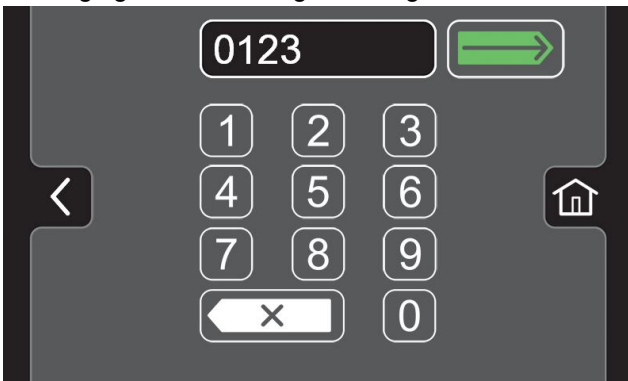

FIG. 181
5. Assign a login code for the new user profile then press the green enter button (Figure 181). The new login code can be any combination of numbers ranging from 3 to 8 digits in length.